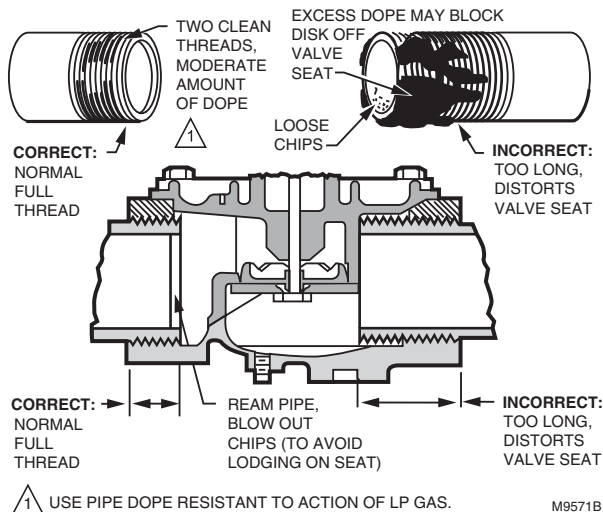
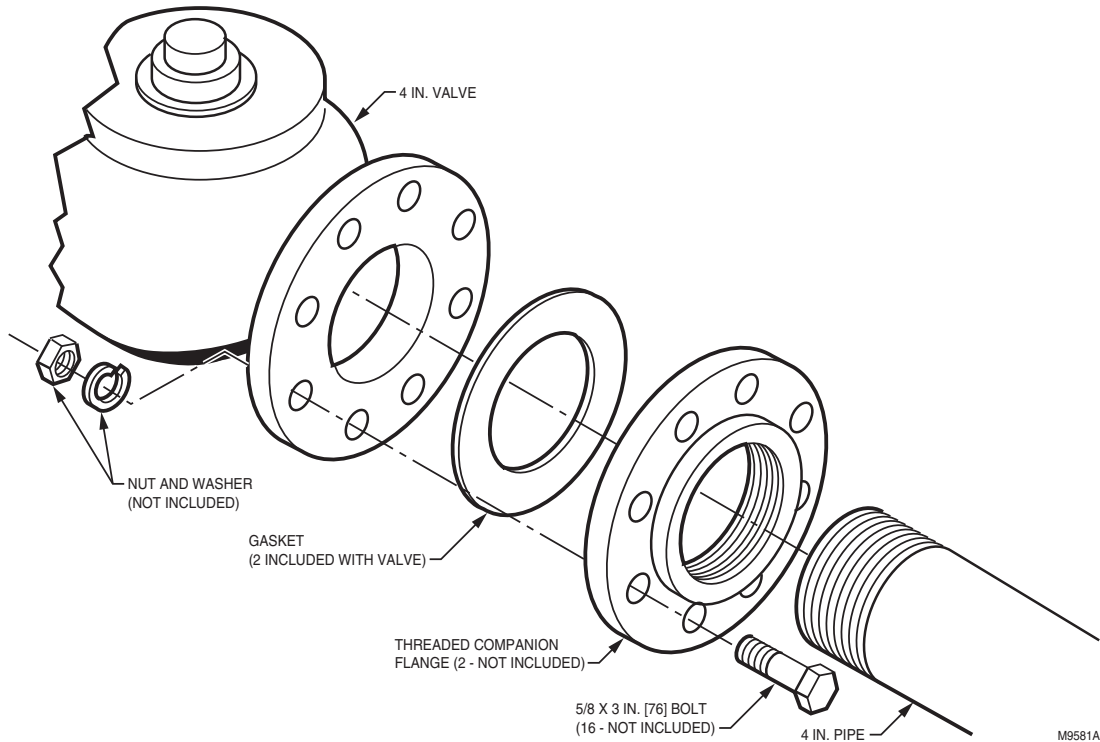

Fig. 4. Preparing the pipes.
Fig. 6. Installing a 4 in. V5055 Valve.
Mounting (Figs. 4 through 6)
2. Do not thread pipe too far (Fig. 4). Valve distortion or malfunction may result from excess pipe in the valve.
threaded flange and gasket on each end of the valve as shown in Fig. 6. Then screw the pipes into the threaded flanges. Apply dope sparingly, and use wrenches and vises properly as shown in Fig. 4 and 5.